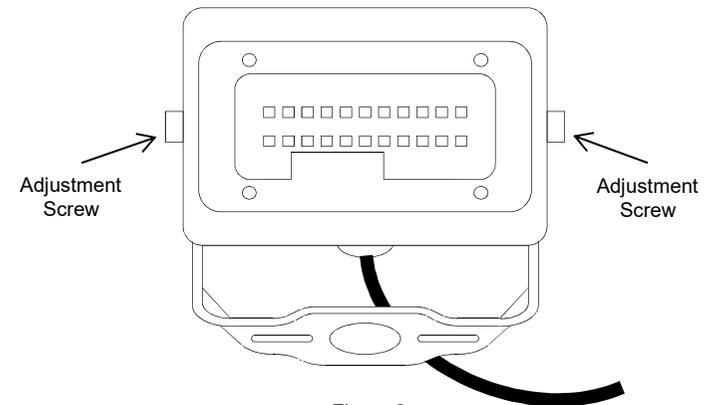

Figure 2
1. To install the luminaire, mark and drill mounting holes in the structure on which the luminaire will be mounted. Using appropriate hardware (supplied by others), attach the luminaire yoke to the stationary structure (see Figure 2).
5. To adjust the vertical position of the luminaire, use a hex wrench to loosen the adjustment screw, and reposition the luminaire head to the desired position, then re-tighten the bolt (see Figure 2).